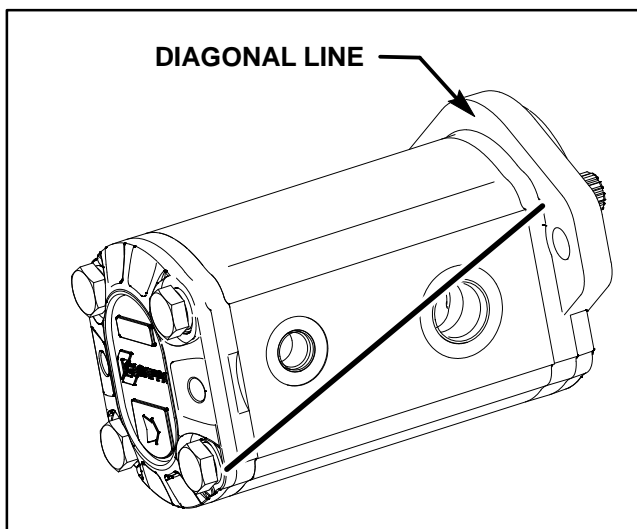

Figure 56
2. Use a marker to make a **diagonal** line across the gear pump for assembly purposes (Fig. 56).